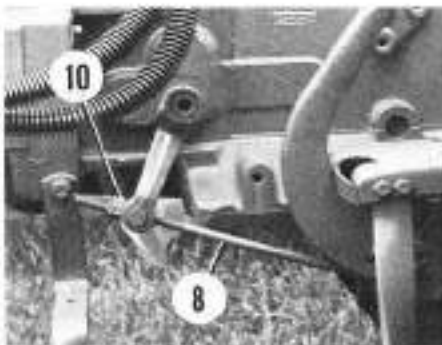

Fig. 96—On some tractors, adjust clutch by turning adjusting nut (10). Item (8) is clutch control rod.
144. Clutch pedal free play should be 1-1½ inches and is controlled by length of clutch pedal rod (8-Fig. 96 or 97). When pedal free play decreases to approximately 1-inch, readjust by turning adjusting nut (10) as required. Loosening adjusting nut will increase, or tightening adjusting nut will decrease, the clutch pedal free play.